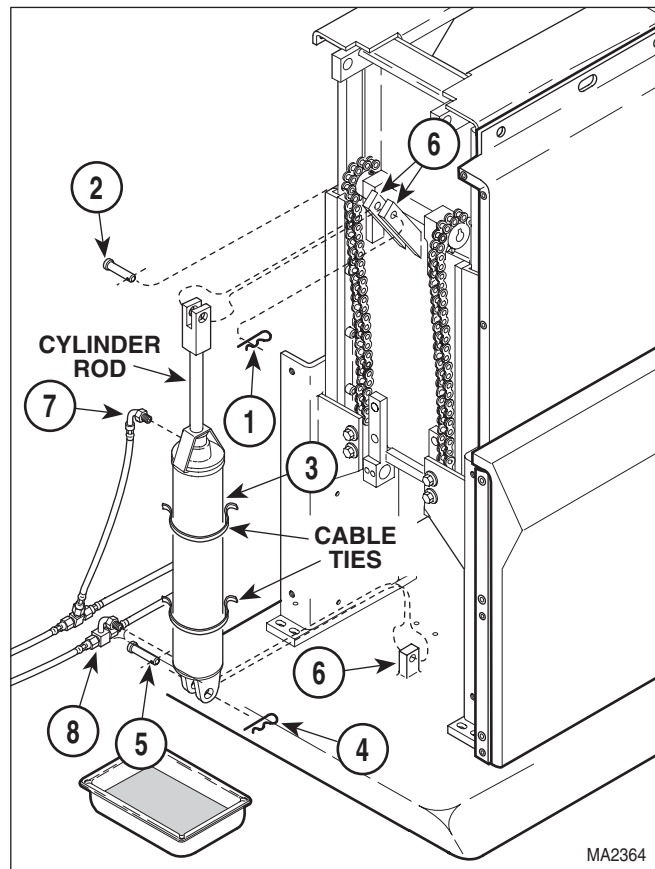

Figure 4-19. Base Cylinder Removal / Installation
Make sure table top is properly secured from lowering or tipping over when base cylinder is disconnected from table top. Clevis pin (2, Figure 4-19) should not have any weight on it if table top is supported properly. Failure to have table top properly secured could result in serious personal injury or death.
- (11) Remove hitch pin clip (1, Figure 4-19) and clevis pin (2) from rod end of base cylinder (3).
- (12) Remove hitch pin clip (4), clevis pin (5), and partially separate base cylinder (3) from brackets (6).
- (13) Cut two cable ties securing hose assembly (7) to base cylinder (3).
- (14) Disconnect hose assembly (7) from base cylinder (3).
- (15) Place rags under base tee (8).
- (1) Position base cylinder (3, Figure 4-19) on table.
- (2) Connect base tee (8) to base cylinder (3).
- (3) Connect hose assembly (7) to base cylinder (3).
- (4) Secure hose assembly (7) to base cylinder (3) with two cable ties.
- (5) Install base cylinder (3) on brackets (6) and